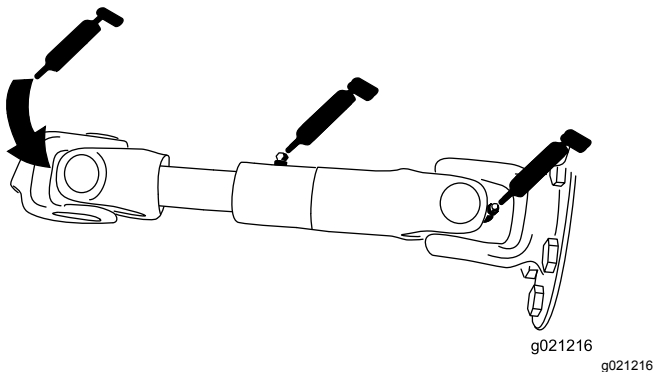

Figure 63
- Pump driveshaft (3) (Figure 63)